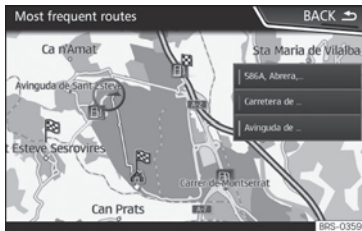

Fig. 210 Predictive navigation
- On the main screen of the Navigation menu, in the pop-up window, press the **FREQUENT ROUTES** button. To display frequently followed routes press the **Show on map** button »» Fig. 210.